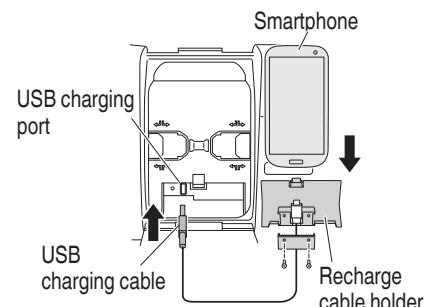

Fig. 9
1. Using a commercially available USB connection/recharge cable, connect to the USB charging port located in the radio's storage case for external devices. (Fig. 9)